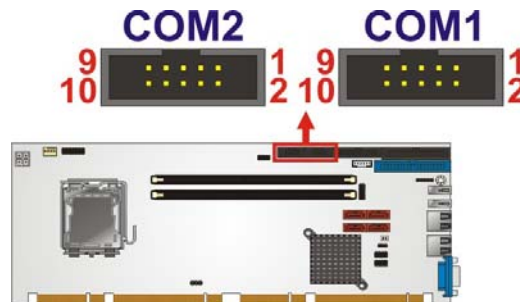

Figure 3-15: Serial Port Connector Location
- CN Location:** See **Figure 3-15**